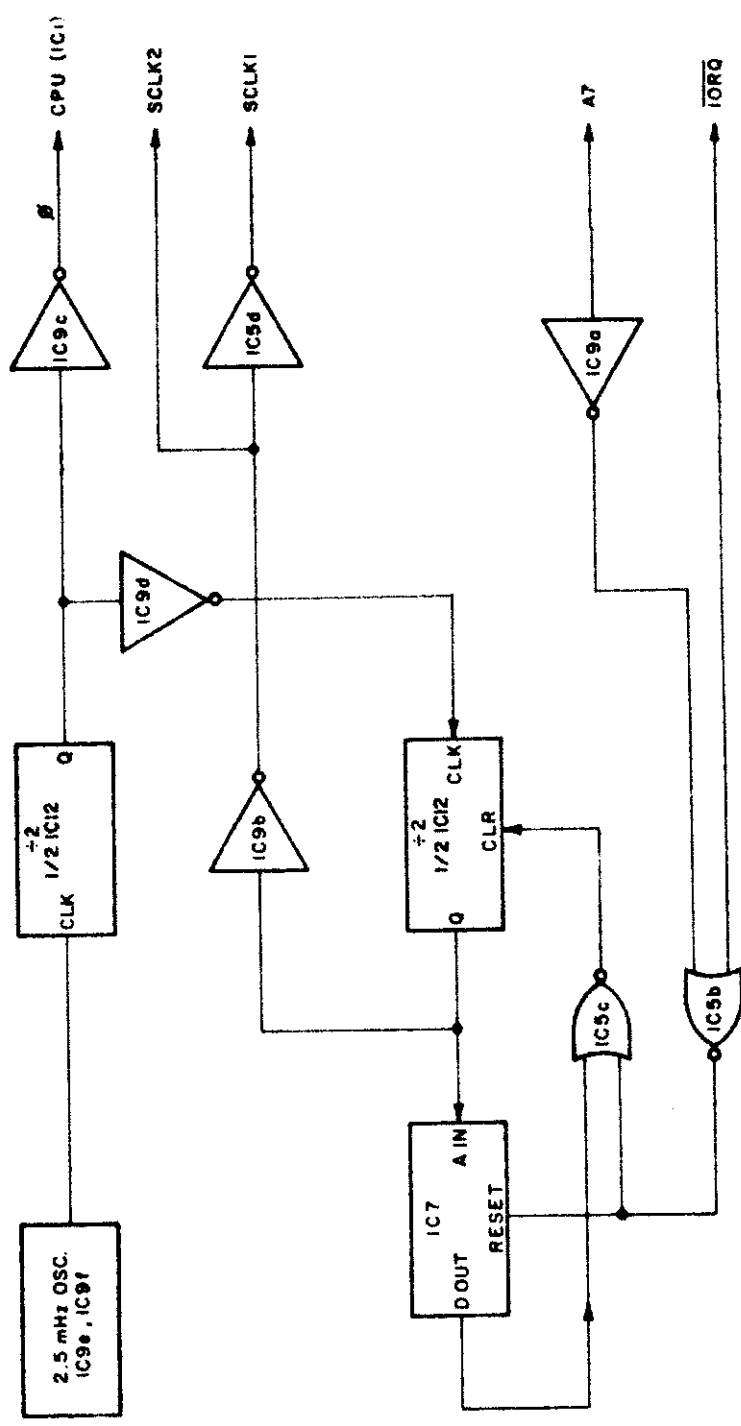

Figure 3-2. Clock and Timing Circuits
- 3.9 DETAILED THEORY OF OPERATION, CLOCK AND TIMING CIRCUITS. See Figures 3-2 and 6-1.